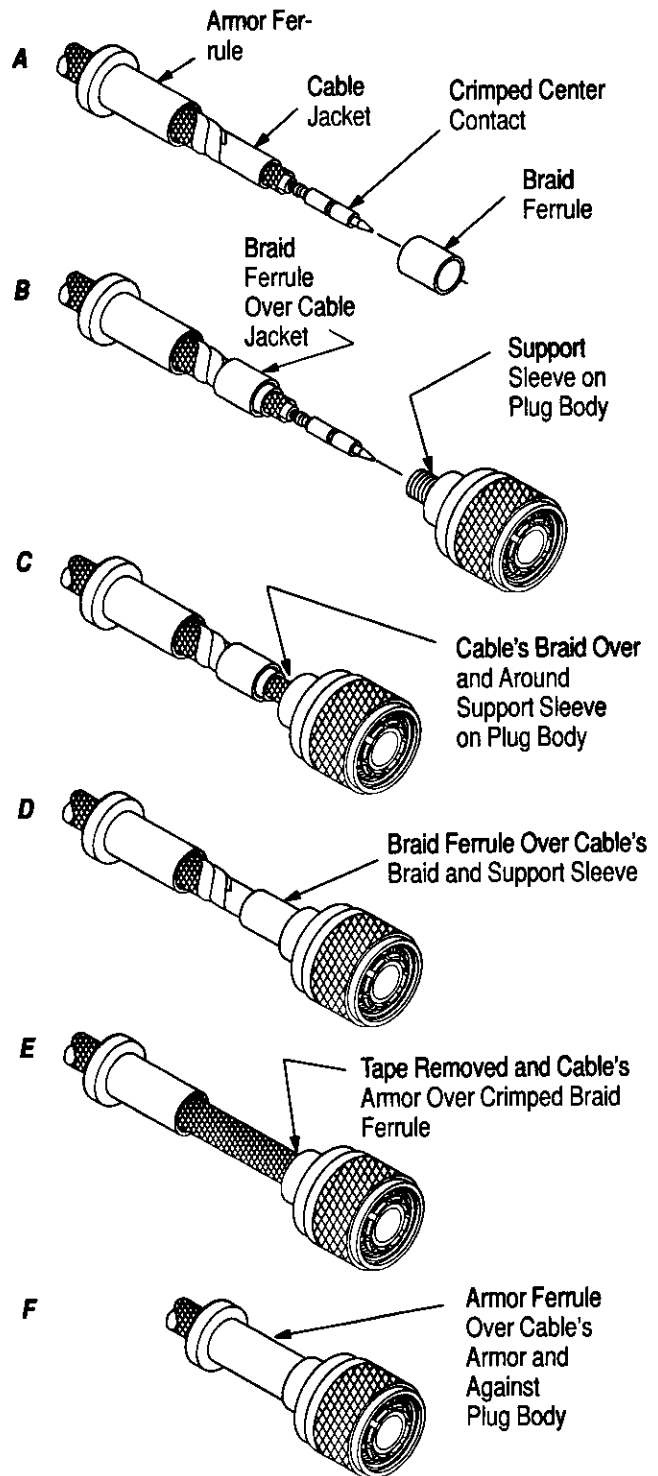

Figure 5
- Crimp the center contact using the appropriate hand tool. See Figure 5, Detail A.
- Slide the braid ferrule over the cable jacket. See Figure 5, Detail B.
- Slide plug body over crimped contact, and insert the support sleeve under the cable's braid until the plug body dielectric bottoms against the cable dielectric. Refer to Figure 5, Detail C.
- Slide the braid ferrule over the cable's braid and the plug body's support sleeve until ferrule butts against plug body. Refer to Figure 5, Detail D.
- Remove the tape and push the cable's armor over crimped braid ferrule. Refer to Figure 5, Detail E.
- Slide the armor ferrule over cable's armor and against the plug body. Refer to Figure 5, Detail F.